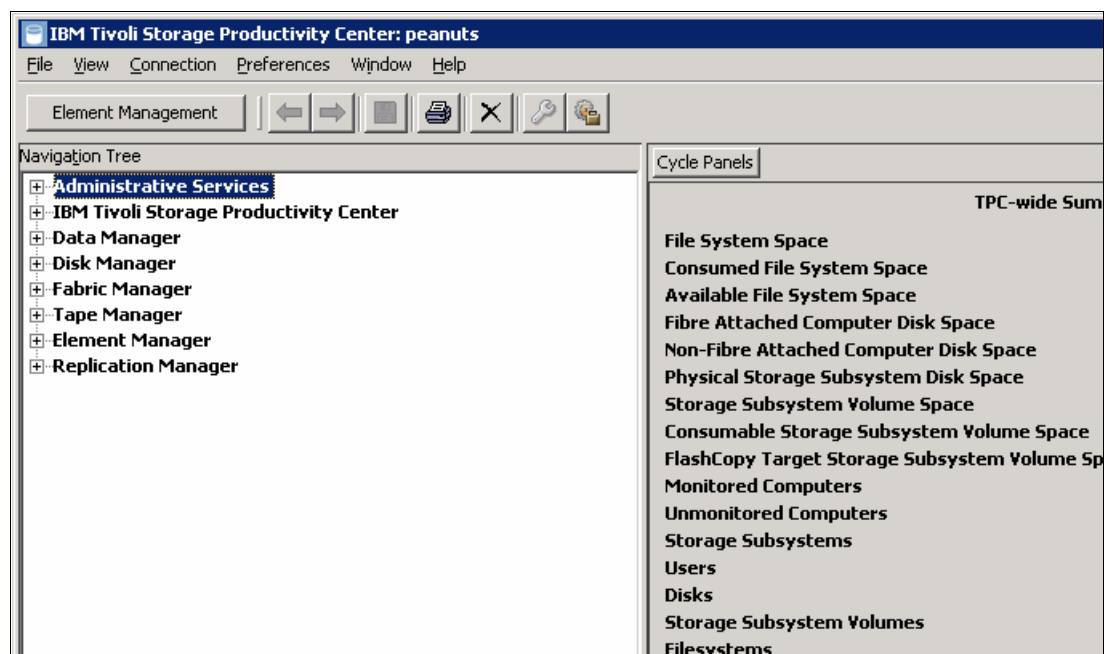
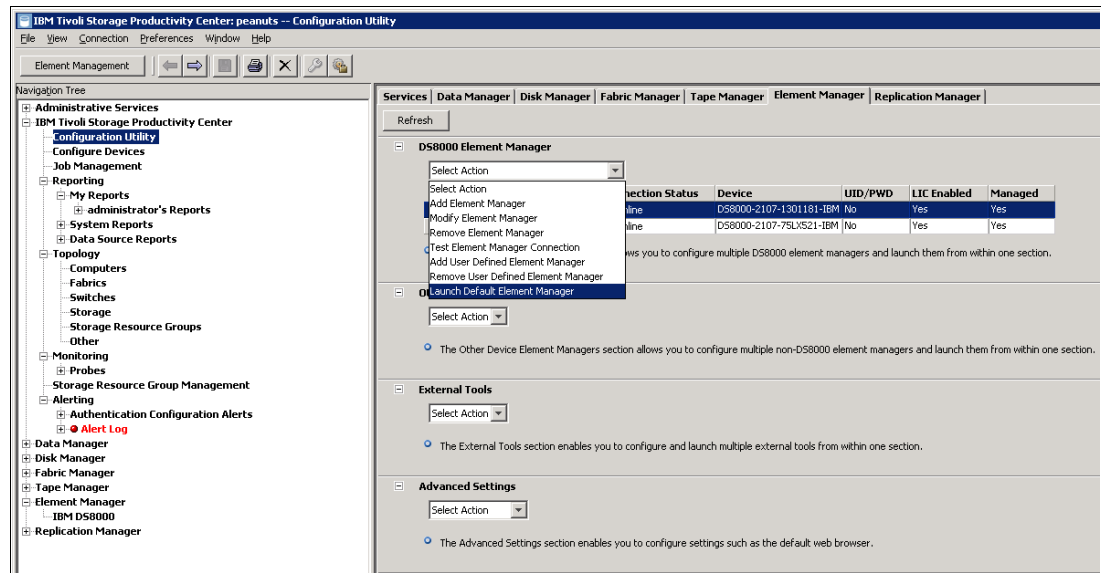
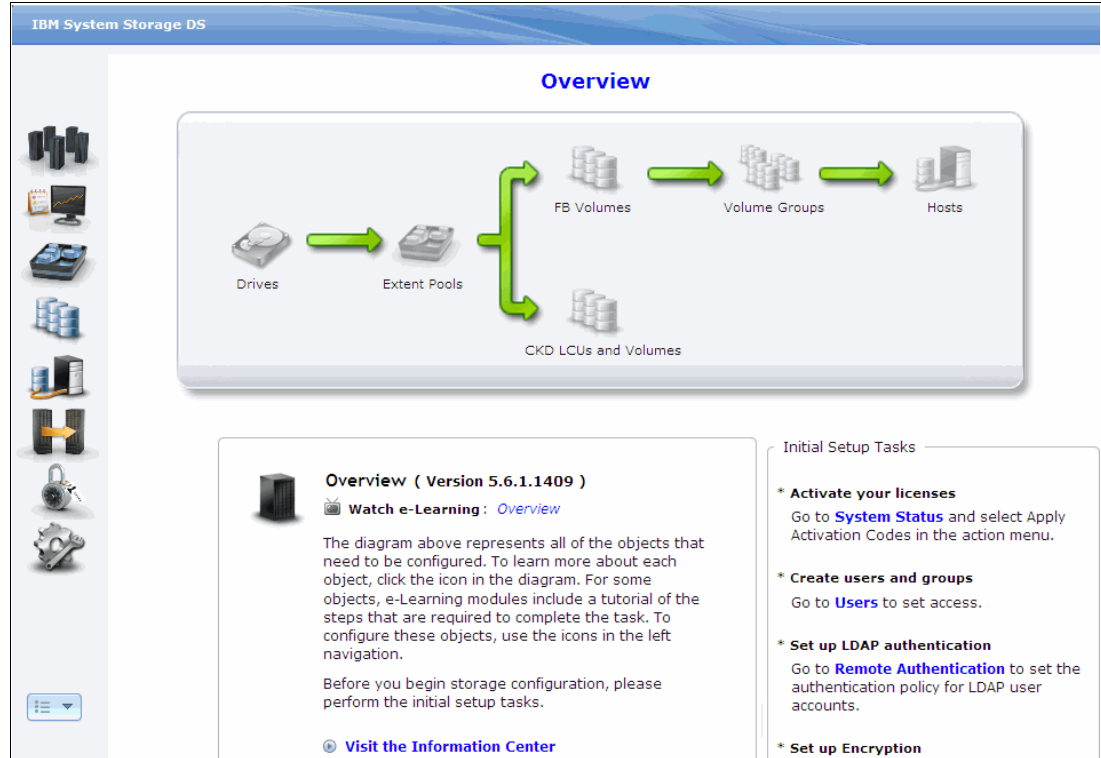

Figure 13-3 SSPC: Launch Element Manager
Figure 13-4 SSPC: Select the DS8000
Figure 13-5 SSPC: DS GUI Overview window
The DS GUI code at the DS8000 HMC is invoked at the SSPC from the Tivoli Storage Productivity Center (TPC) GUI, and accessed by launching an Element Manager. The sequence of windows displayed when accessing the DS GUI through SSPC is shown in Figure 13-3 on page 312, Figure 13-4 on page 313, and Figure 13-5 on page 313. The DS8000 HMC that contains the DS Storage Manager communicates with the DS Network Interface Server, which is responsible for communication with the two controllers of the DS8000.
3. In the Tivoli Storage Productivity Center window shown in Figure 13-3, click **Element Management** (above the Navigation Tree) to launch the Element Manager.
- After the Element Manager is launched, click the disk system you want to access, as shown in Figure 13-4.
- You are presented with the DS GUI Overview window for the selected disk system as shown in Figure 13-5.
After you log on, the DS Storage Manager Overview window shown in Figure 13-5 on page 313 displays.